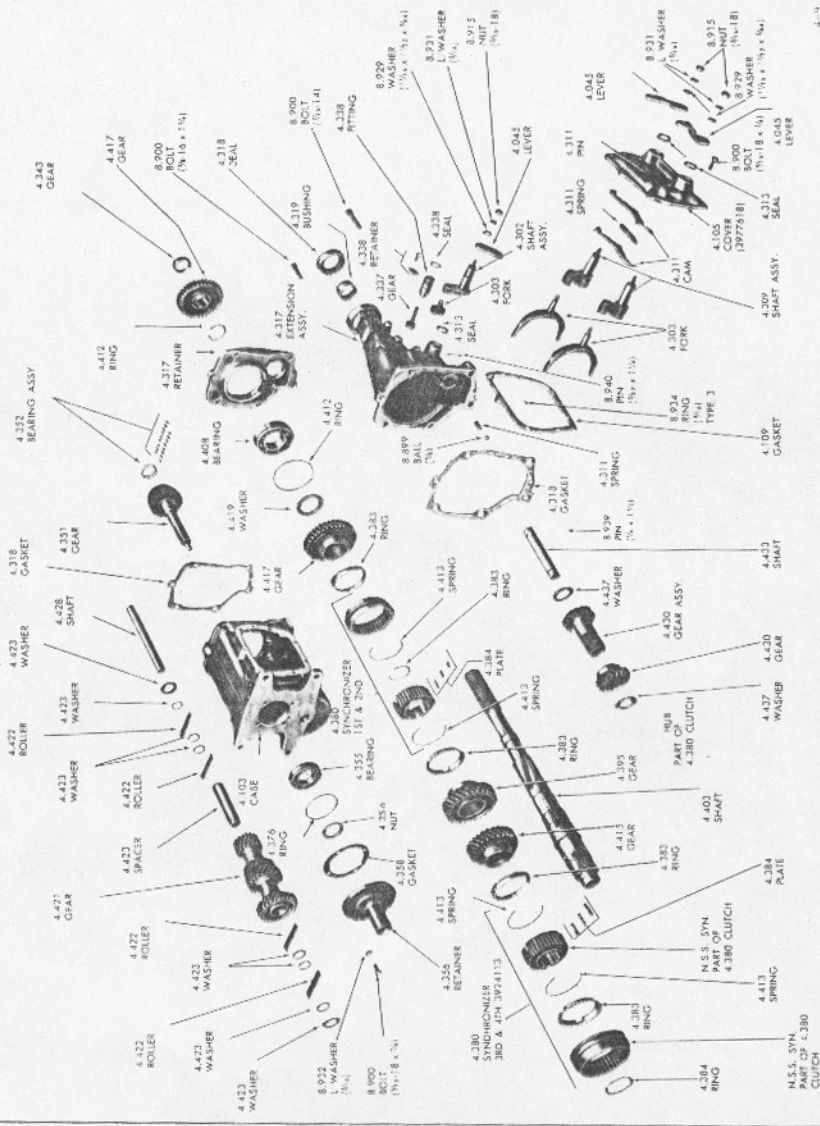

Figure 17 — Exploded view of a Muncie Four Speed transmission.
1. Transmission should be thoroughly disassembled for visual inspection as well as magnetic particle and dye penetrant inspection of all components. (Figure 17, page 4-10)